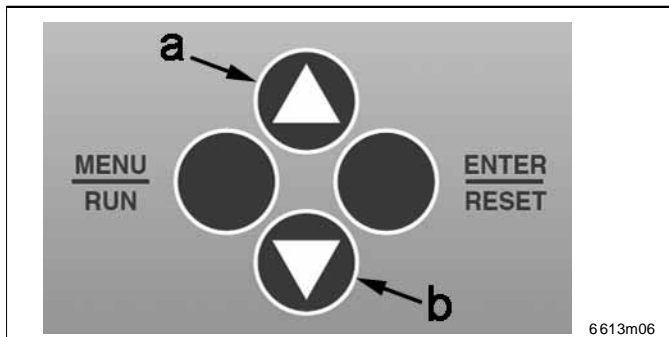

Fig. 8 Operating panel
- In the case of a field bus connection, set the system-related address code 0001 to 0255 by means of the UP and DOWN keys (see Fig. 8).
- Complete your selection with the ENTER key (Fig. 8).
The version number setting (0 - 1) is shown in the LMC2 display and is made using the UP & DOWN keys on the operating panel (see pos. a & b, Fig. 8).